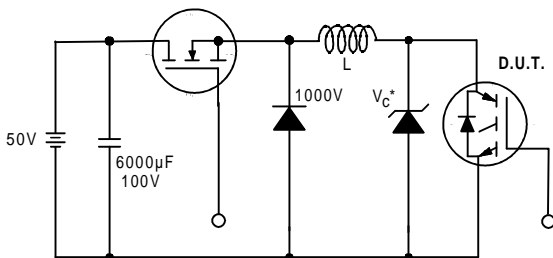

Figure 19. Clamped Inductive Load Test Circuit
- ② $V_{CC} = 80\% (V_{CES})$, $V_{GE} = 20V$, $L = 10\mu H$, $R_G = 5.0\Omega$ (figure 19)
- ③ Pulse width $\leq 80\mu s$; duty factor $\leq 0.1\%$.
- ④ Pulse width $5.0\mu s$, single shot.